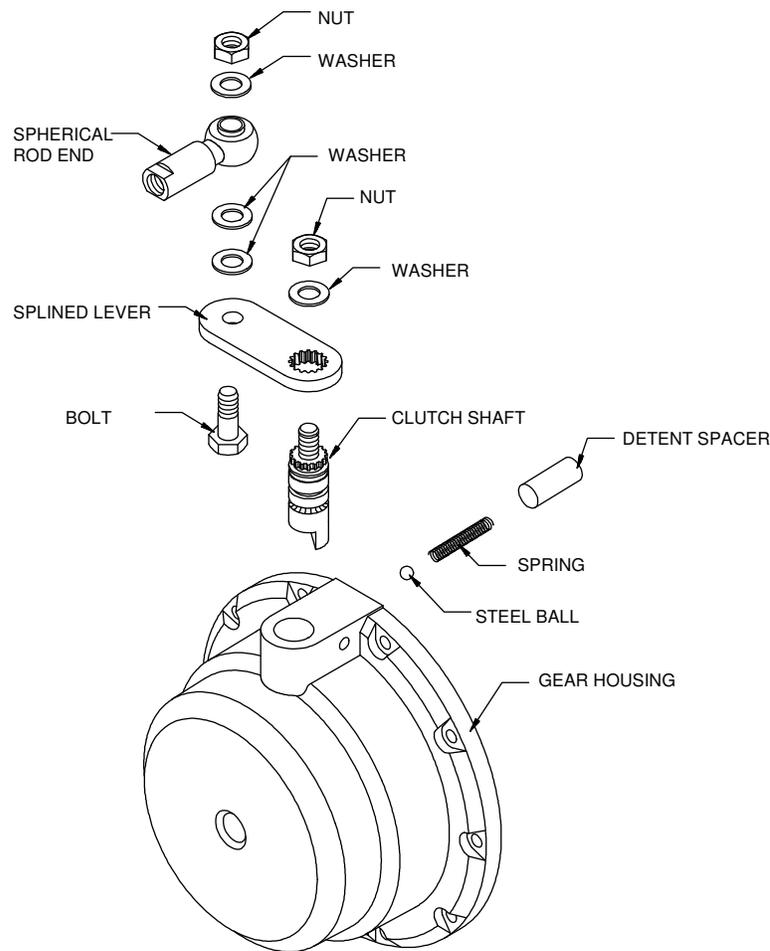

Figure 4.1
2. Remove the spherical rod end and splined clutch lever from the clutch shaft (*Figure 4.1*).
1. Re-install the clutch shaft in housing in exactly the same position it was removed. Apply a light coating of oil or grease to hole where the clutch shaft is installed (*Figure 4.1*).